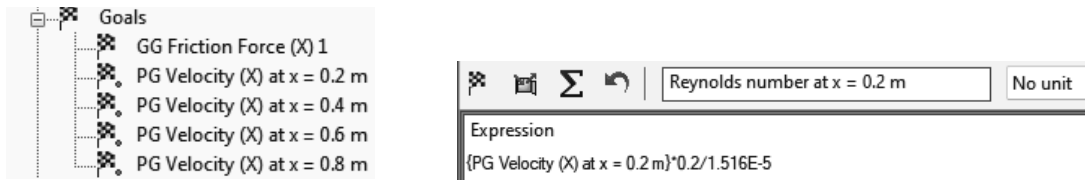

Figure 2.21f) Renaming the point goals Figure 2.21g) Entering an equation goal
Rename the goals as shown in figure 2.21f). Right click on **Goals** in the **Flow Simulation analysis tree** and select **Insert Equation Goal....** Click on **PG Velocity (X) at x = 0.2 m** goal in the **Flow Simulation analysis tree**, multiply by 0.2 (for $x = 0.2$ m) and divide by $1.516E-5$ (kinematic viscosity of air at room temperature ($\nu = 1.516E-5$ m²/s) to get an expression for the Reynolds number in the **Equation Goal** window, see figure 2.21 g). Select **No unit** from the dimensionality drop down menu. Rename the equation goal to **Reynolds number at x = 0.2 m**. Exit the **Equation Goal** window. Insert three more equation goals corresponding to the Reynolds numbers at the three other x locations. For a definition of the Reynolds number, see equation (2.15).